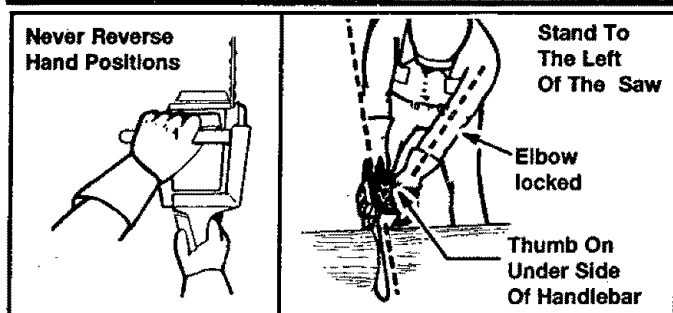

Figure 4
- **Keep a good, firm grip on the saw with both hands when the engine is running and don't let go.** Figure 4. A firm grip can neutralize kickback and help you maintain control of the saw. Keep the fingers of your left hand encircling and your left thumb under the front handlebar. Keep your right hand completely around the rear handle whether you are right handed or left handed. Keep your left arm straight with the elbow locked.
- **Position your left hand on the front handlebar so it is in a straight line with your right hand on the rear handle when making bucking cuts.** Figure 4. Never reverse right and left hand positions for any type of cutting.
- **Stand slightly to the left side of the saw to keep your body from being in a direct line with the cutting chain.** Figure 4.